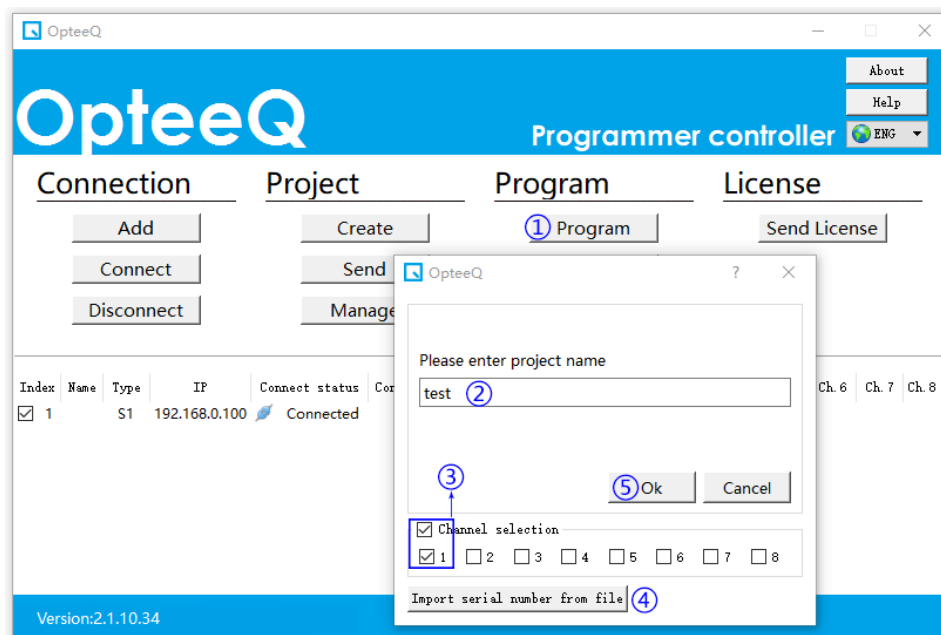

Figure 4.19: Program
- 1) Click "Program" (as shown in Figure 4.19-①).
- 2) Pop up a dialog box "Project to be Programmed" to input the project name to be programmed (as shown in Figure 4.19-②).
- 3) Check "Channel Seletion" in the dialog box. Notes: S1 Programmer only Select Channel 1 (as shown in Figure 4.19-③).
- 4) Click "Import serial number from file" to set dynamic data for the chip (for specific operations, please refer to Chapter 5 "Programming Serial Number" herein). If it is not intended to set dynamic data for the chip, this option may be omitted (as shown in Figure 4.19-④).
- 5) Click "Ok" to start programming (as shown in Figure 4.19-⑤).